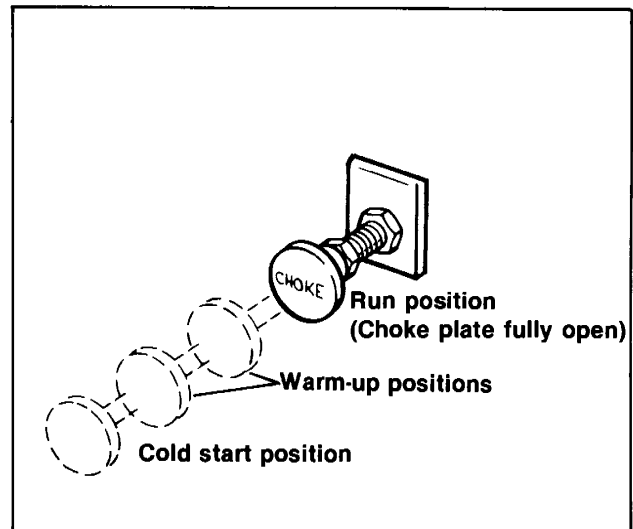

Figure 4-2. Setting the Choke
Choke (Figure 4-2)
1. See Figure 4-2. In the first position, choke knob all the way in, the choke plate is fully open and the engine operates at low idle speed.